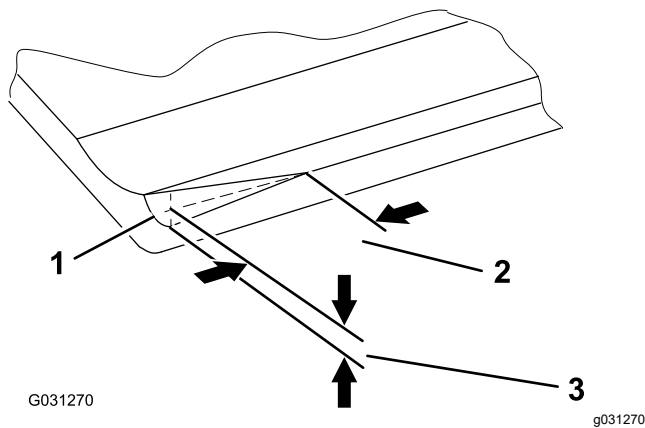

Figure 9
**Note:** Over time, you will need to grind the chamfer (Figure 9), as it is only designed to last 40% of the bedknife life.